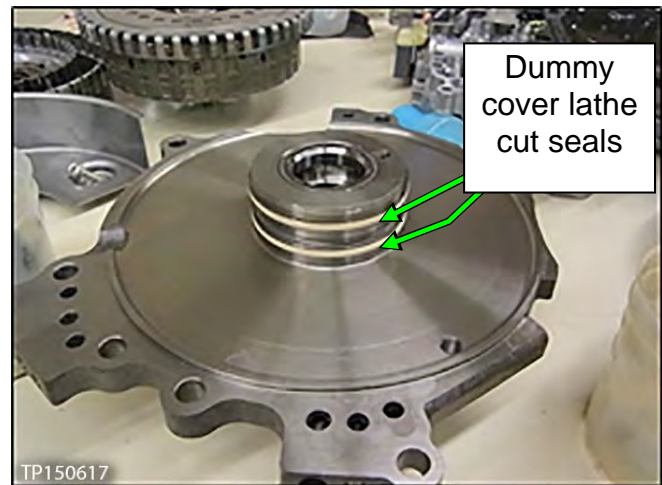

Figure 3I
3. Apply petroleum jelly or equivalent to the dummy cover's lathe cut seals (Figure 3I) before installing the dummy cover to the CVT case.